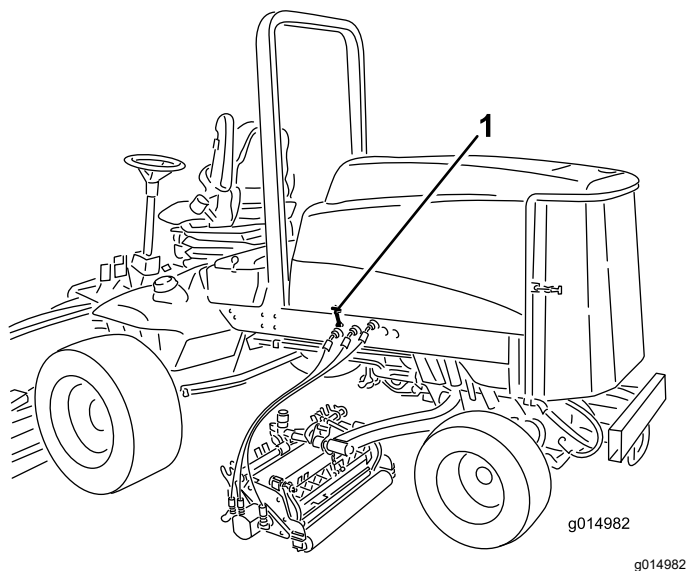

Figure 66
1. Release the hood latches (Figure 66) and pivot open the hood.